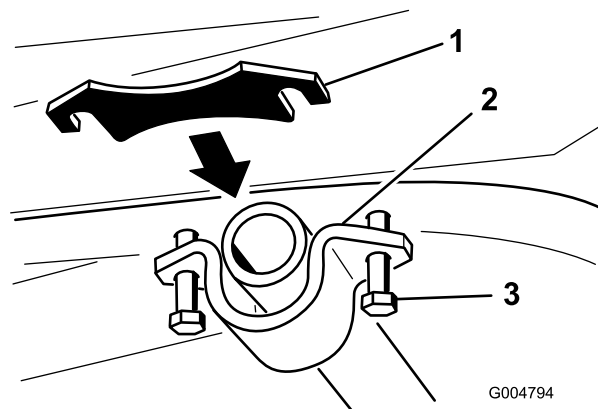

Figure 22
6. Loosen the bolts that secure the pivot tube bracket to create an opening between the frame and the pivot tube bracket (Figure 22).